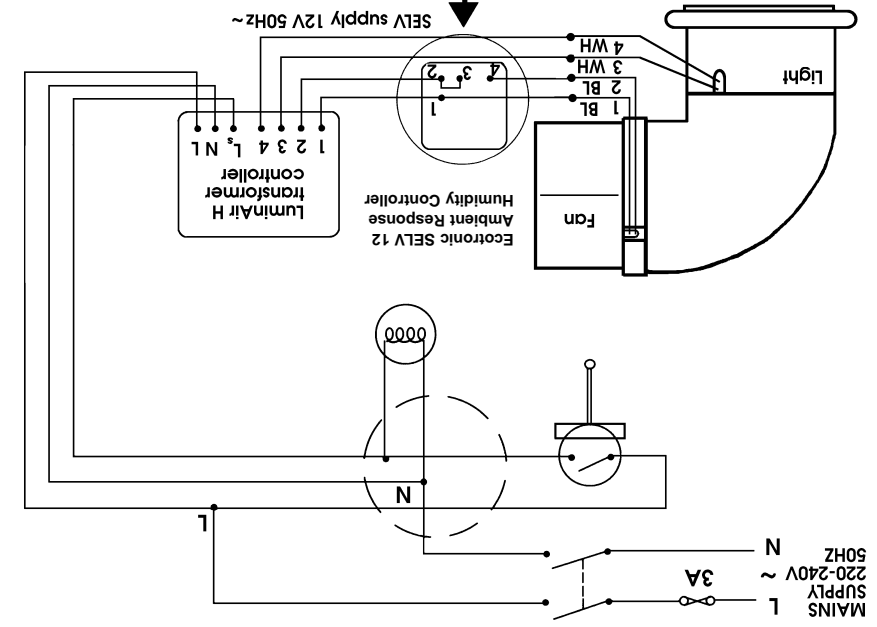

fig. 5 PERFORMANCE
3.2 Site away from direct sources of heat. Do not site in areas containing excessive levels of grease. If the LuminAir is installed in a room containing a fuel burning appliance the installer must ensure that air replacement is adequate for both the fan and the fuel burning appliance (Please refer to fig. 5 for performance details).